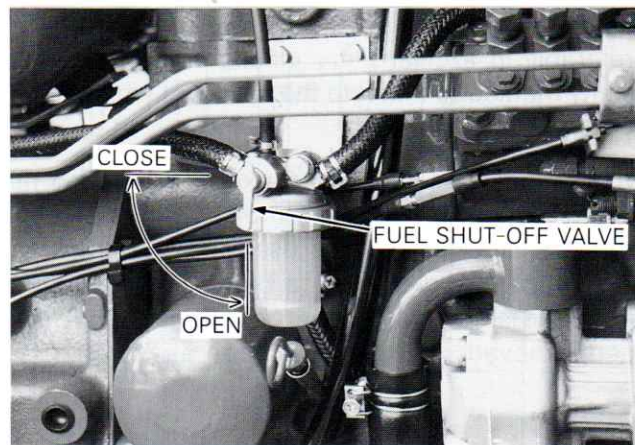

Figure 37 – Fuel Filter
1. Be sure there is adequate fuel in the fuel tank, close the fuel shut-off valve, then remove the fuel sediment bowl, Figure 37.
2. Remove the sediment bowl, Figure 37.